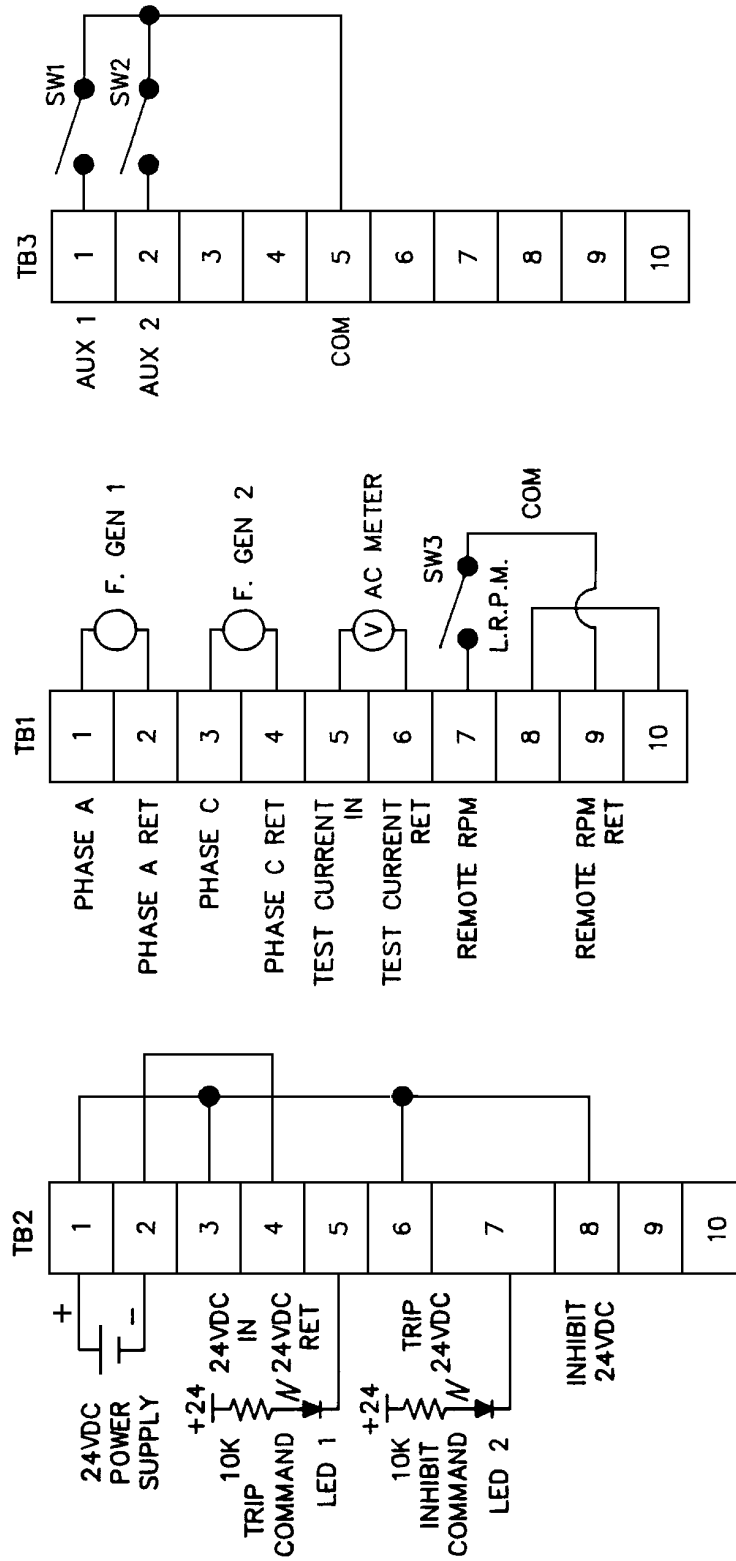
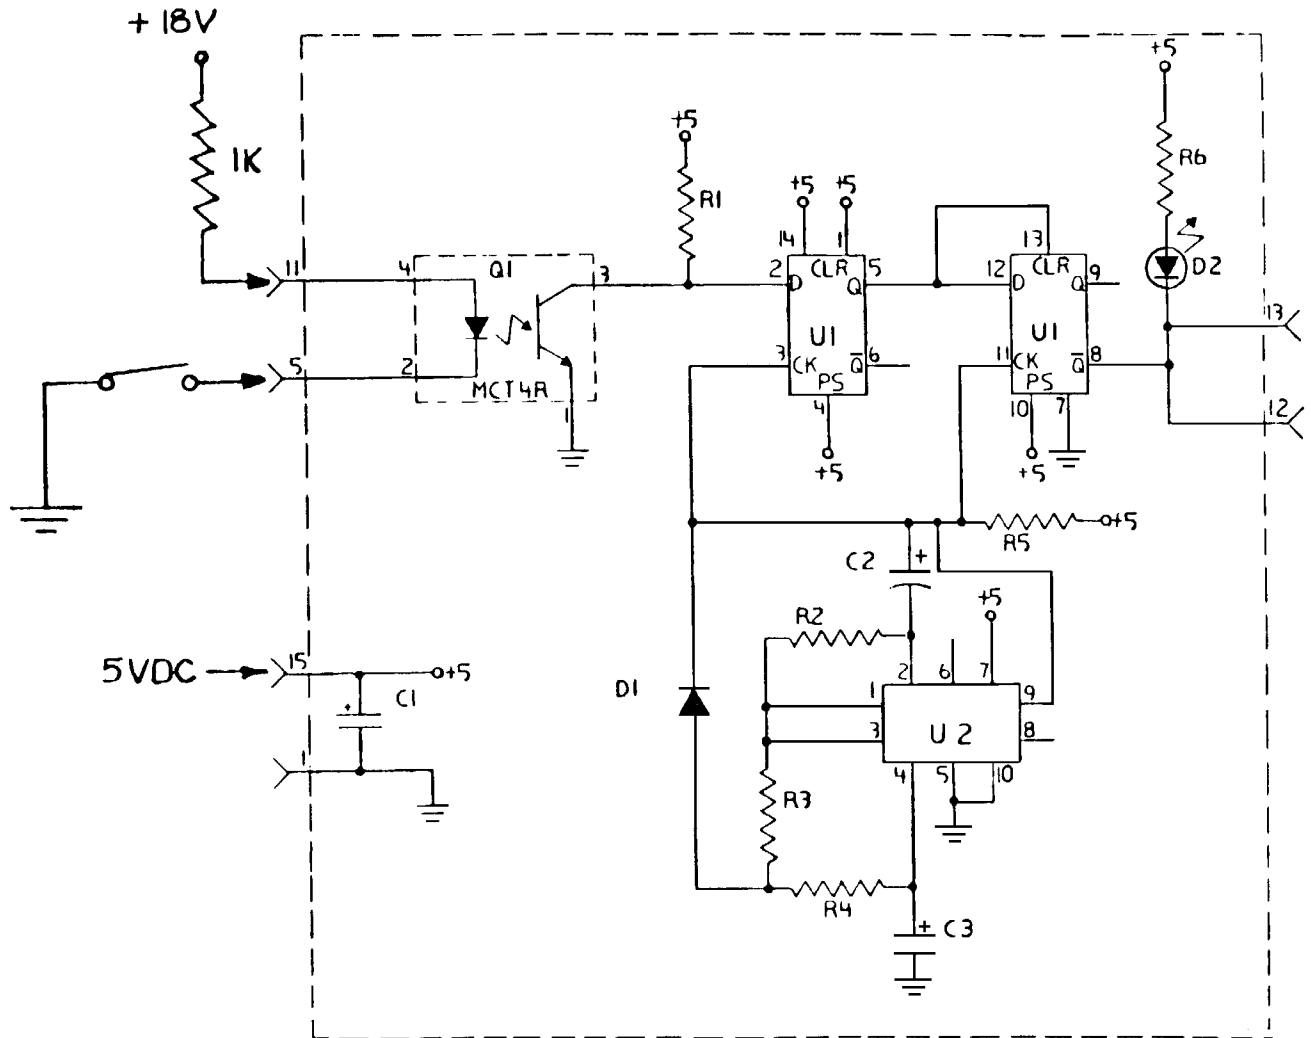

Figure 5-10. Fault Current Detector Test Connection
Figure 5-12. Turbine RPM Detector PCB Schematic
Power requirements: 24 VDC as shown in figure 5-10. Modules (PCB) require 24 VDC through power supply card or 18 VDC applied to card.
- (1) Power Supply Module
- (2) Current Supply Module
- (3) Remote RPM Detector
- b. Connect FCD to test components as shown in figure 5-10 and place switches SW1 and SW2 in "CLOSED" position and switch SW3 in "OPEN" position.
- (1) LED 1 and LED 2 are illuminated
- (2) Fault LED on Power Supply Module is off
- (3) Phase A and C LEDs on Current Detector Module are off
- (4) "LOW" LED on Remote RPM Detector Module is on and voltage reading between TB1-5 and TB1-6 read 0.00 ± 0.1 VAC
- a. Visually inspect unit for poor solder joints, solder splashes, incorrect components, and incorrect capacitor directions. See figure 5-12 for schematic.
- b. Connect board as shown in figure 5-10 or apply power as shown in figure 5-12.